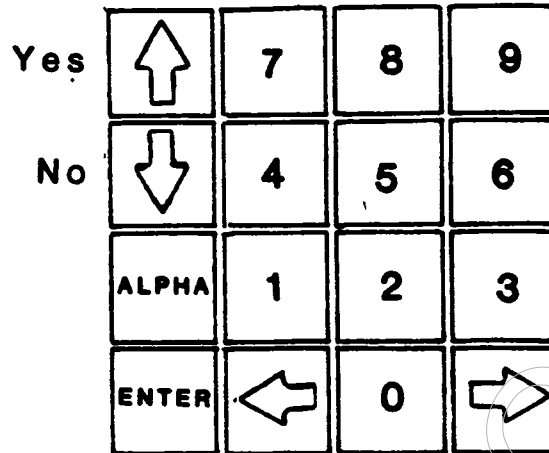

Figure 5: The Keypad
8. In SYNTH Mode, the Display gives you the following information, illustrated in Figure 5. The items in the top line give the same information given in DRUMS mode, while the items in the bottom line give information specific to playing and recording synth sequences.